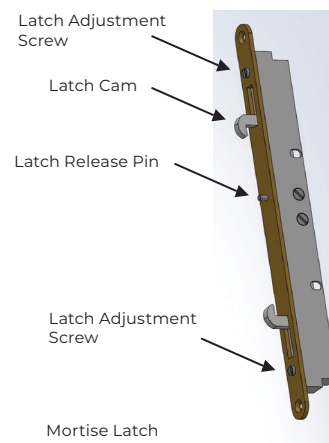

Figure 35
1. **Attach** keeper to frame jamb using four (4) #10 X 1 1/2" pan head screws. Track will be dimpled in the location the keeper is installed into the frame jamb.
- **HELPFUL TIP:** There is adjustment on the latch to move the cams in or out. Adjust the cams independently to remove play or add play to the latch engagement in the panel. If your unit has fixed panels it is recommended to adjust the cams in tight until the fixed panel is secured. Once the fixed panel(s), fixed panel clip(s), and retainer clip(s), have been completely installed readjust cams to allow for a little bit of play in the operating door(s). (See Figure 35)